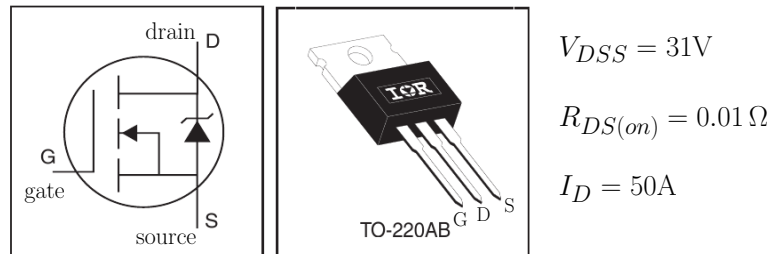

Figure 6: Si4829DY MOSFET.  $R_{DS}$  is the resistance when on;  $V_{DSS}$  is the voltage at which the isolation breaks down when off.
The MOSFET M1 (see Fig. 6) acts as the switch in this circuit. When a positive voltage of a few volts is applied to its gate electrode, it conducts strongly between source and drain. Without the gate
- The voltage does not exceed  $\sim 37\text{ V}$  because the transistor starts to break down above 31 V (see Fig. 6). Again, this is modelled correctly.